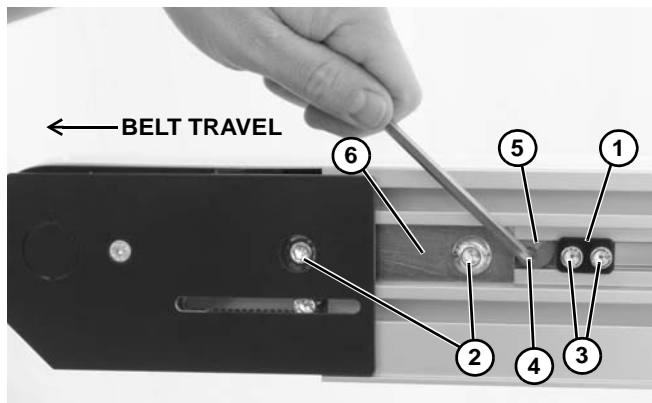

Figure 68
Non V-guided belt conveyors are equipped with belt tracking cam assemblies (**Figure 68, item 1**) for belt tracking adjustment.
1. Ensure head plate fastening screws (**Figure 68, item 2**) on both sides of conveyor are tightened.
2. On both sides of conveyor, loosen two (2) cam fastening screws (**Figure 68, item 3**). Adjust cams (**Figure 68, item 4**) until indicator arrows (**Figure 68, item 5**) are horizontal and pointing towards the center of the conveyor. Then slide cam assemblies against head plates (**Figure 68, item 6**) and re-tighten cam fastening screws (**Figure 68, item 3**) to 60 in-lb (7 Nm).
3. On the side toward which the belt is tracking, loosen head plate fastening screws (**Figure 68, item 2**).
4. With the conveyor running, use a 5 mm hex-key wrench to rotate the tracking cam (**Figure 68, item 4**) in small increments until the belt tracks in the center of the conveyor. Then while holding the cam in position, re-tighten the head plate fastening screws (**Figure 68, item 2**) with a 6 mm hex-key wrench to 60 in-lb (7 Nm).